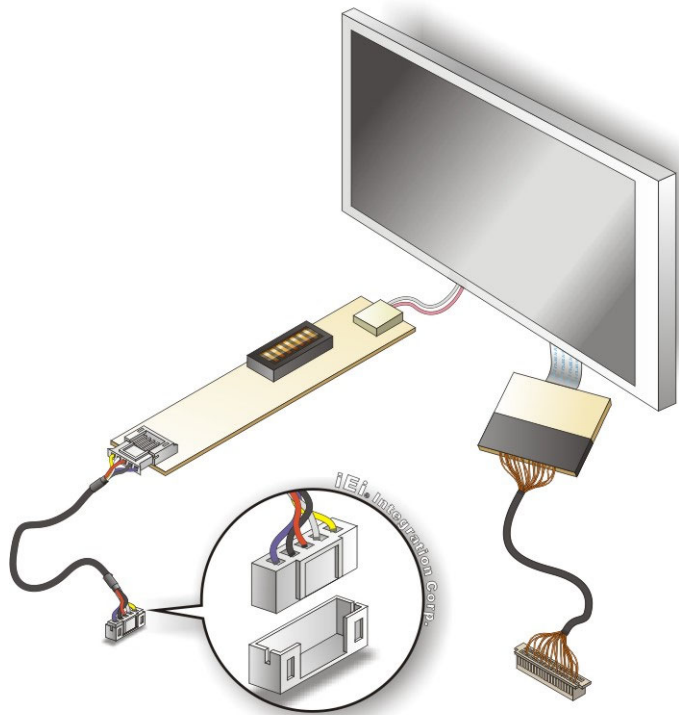

Figure 4-14: Backlight Inverter Connection
Step 4: **Connect backlight connector.** Connect the backlight connector to the driver TFT LCD PCB as shown in **Figure 4-14**. When inserting the cable connector, make sure the pins are properly aligned.